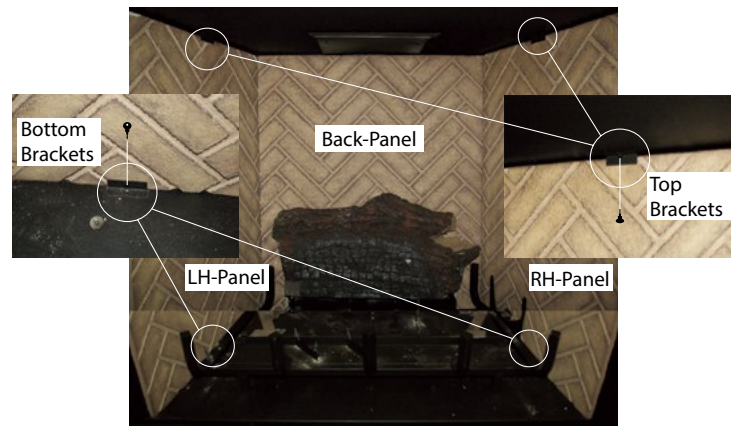

Figure 22. (Removing Refractory panels).
**Step 1.** Remove the RH-TOP machine screw that hold the Side Refractory panel in place, then the bottom, **Figure 22. (Philips head screwdriver required).**
**Step 2.** Remove the RH-Refractory panel from the firebox, **Figure 22. (Place the Refractory panel somewhere safe where it will not get chipped or damaged).**
**Step 3.** Follow step 1 & 2 to remove the LH-Side Refractory panel, **Figure 22. (Philips head screwdriver required).**
**Step 1.** Remove the RH Refractory Panel as described in **Figure 22.**
**Step 1.** Remove the LH Refractory Panel as described in **Figure 22**.